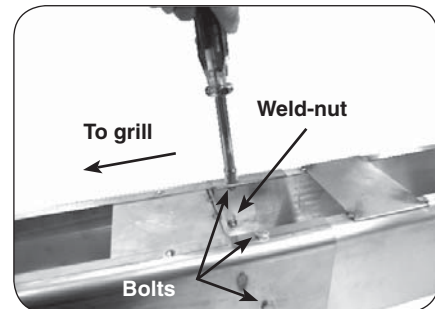

Fig. 14-2 Fasten extension to post
2. From outside the joined post and extension, insert one of the 1/4 X 20"-5/8 bolts (supplied) into each of the five (5) bolt holes and tighten each using a 7/16" socket driver or wrench (see Fig. 14-2).